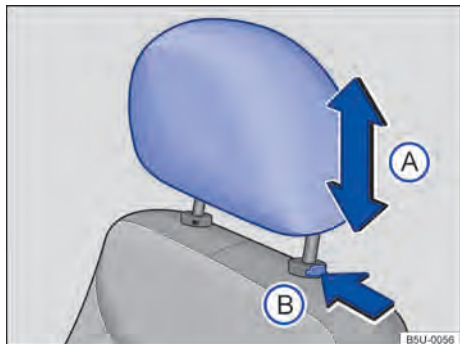
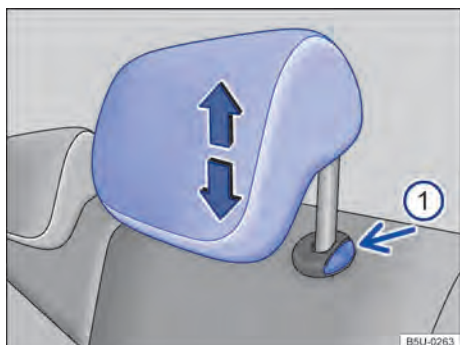

Fig. 58 Front head restraint: adjust, remove and install.
Fig. 59 Rear head restraint: adjust, remove and install.
- Push the head rest up or down in the direction of the arrow → Fig. 58 A → ▲ in *Introduction* on page 61.
- Move the headrest up or down in the direction of the arrow with the button → Fig. 59 ① held down → ▲ in *Introduction* on page 61.
- Press the button → Fig. 58 A or → Fig. 59 ① in the direction of the arrow. Remove the head rest while pressing the button.
- Push the head restraint all the way down with button → Fig. 58 A pressed.
- Press and hold → Fig. 59 ① to push the head rest downwards.